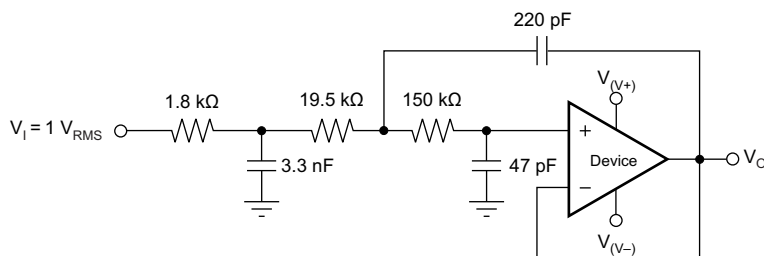

图 43. OPAx354-Q1 Configured as a Three-Pole, 20-kHz, Sallen-Key Filter
3. Using a noninverting filter topology, such as the Sallen-Key (see 图 43).